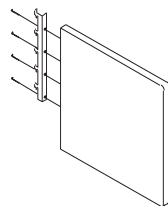

FIG. 7
1. To mount a Hang-on Lateral File at floor height, the end panel mounting brackets must be shortened. Remove the (5) screws that hold each mounting bracket on the end panels.
3. Reattach the brackets on the correct end panels in their original position (Figure 7).